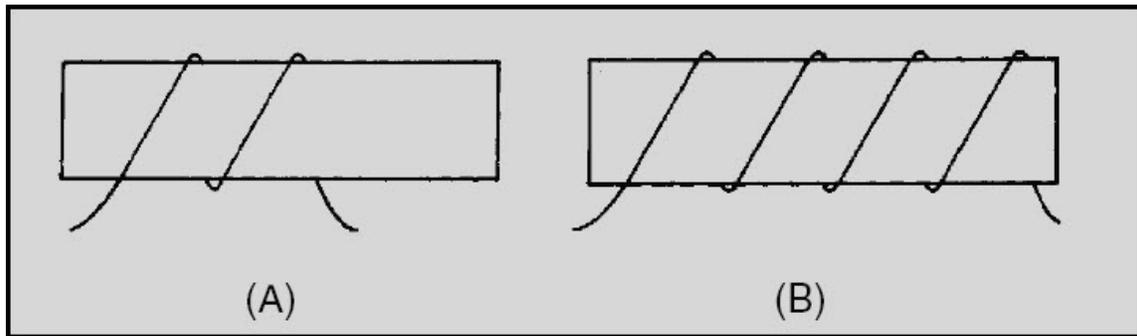

Figure 2-5 Inductance factor (turns)
Inductance depends entirely upon the physical construction of the circuit, and can only be measured with special laboratory instruments. Of the factors mentioned, consider first how the number of turns affects the inductance of a coil. Figure 2-5 shows two coils. Coil (A) has two turns and coil (B) has four turns. In coil (A), the flux field set up by one loop cuts one other loop. In coil (B), the flux field set up by one loop cuts three other loops. Doubling the number of turns in the coil will produce a field twice as strong, if the same current is used. A field twice as strong, cutting twice the number of turns, will induce four times the voltage. Therefore, it can be said that the inductance varies as the square of the number of turns.